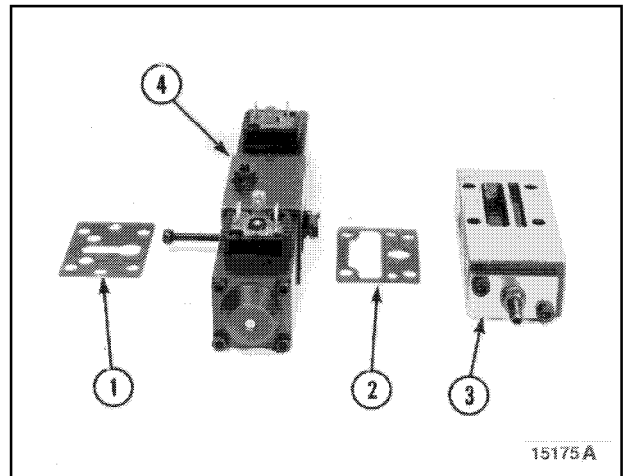

Figure 41
46. Note position of seals (1 and 2, Figure 41) in relation to cover (3) and control unit (4).